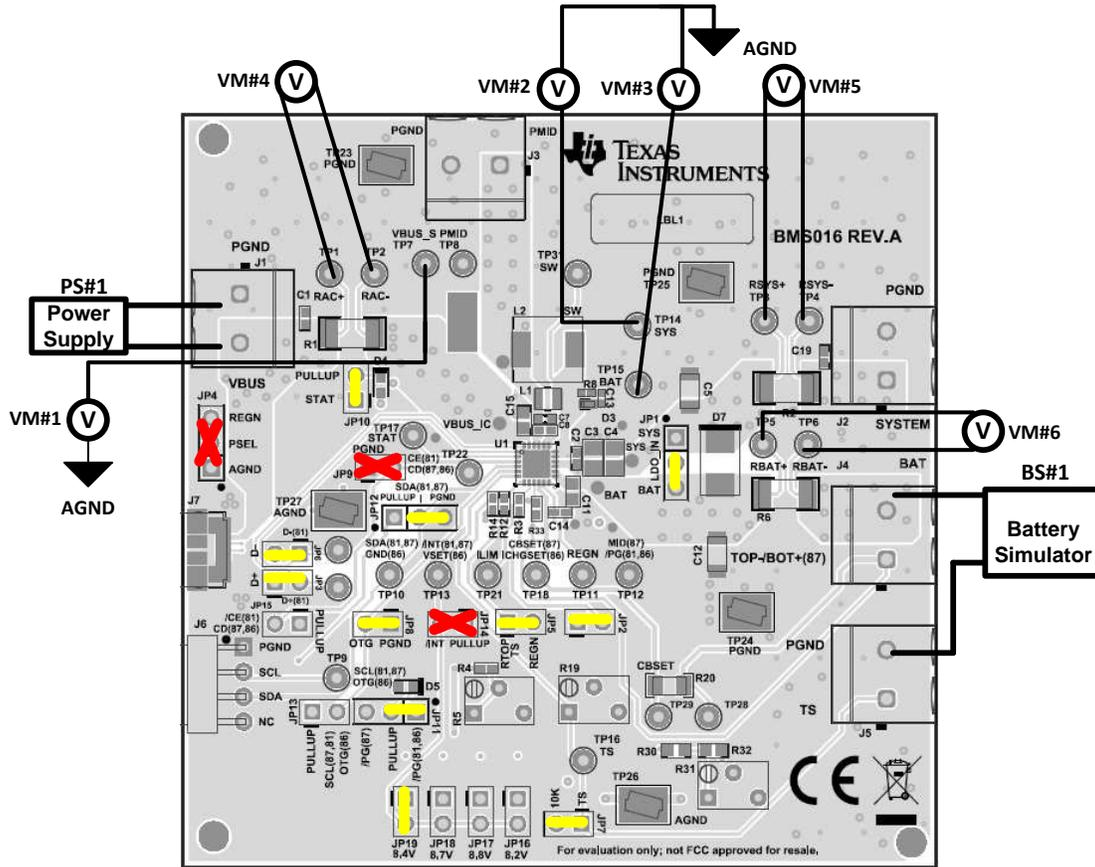

Figure 1. BQ25886 Charge Mode Test Setup
1. **Figure 1** shows the test setup for BQ25886 when in charge (boosting) mode including jumper settings per **Table 2**. Ensure that the power supply and battery simulator are turned off before connecting to the EVM.